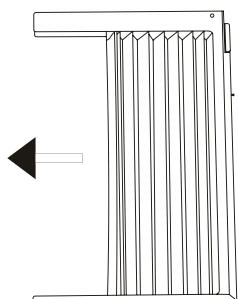

Fig.1
A. Hold the side panel in one hand and gently pull back the center to free the open end. See Fig. 1.